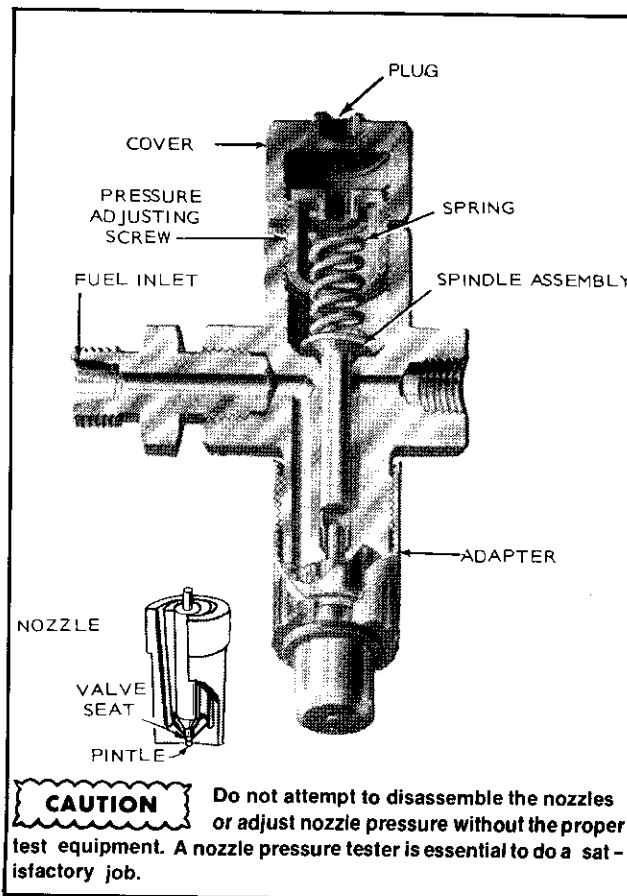

FIGURE 3-5. INJECTOR NOZZLE HOLDER
1. High pressure fuel from the injection pump enters the fuel inlet stud and flows down drilled passages in the body of nozzle holder, Figure 3-5.